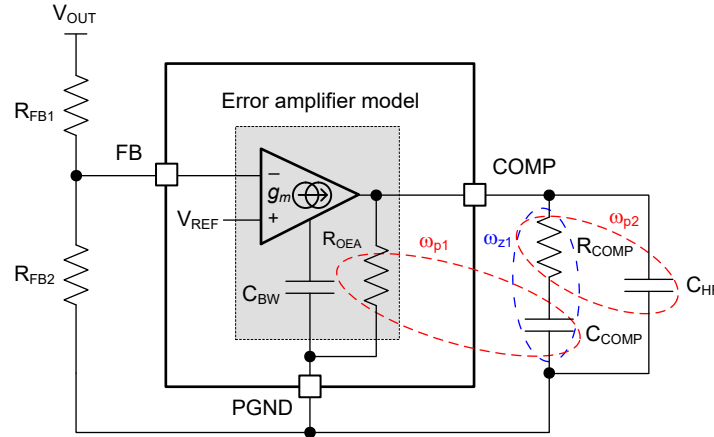

Figure 8-2. Error Amplifier and Compensation Network
Figure 8-2 shows a Type-II compensator using a transconductance error amplifier (EA). The dominant pole of the EA open-loop gain is set by the EA output resistance,  $R_{\text{OEA}}$ , and effective bandwidth-limiting capacitance,  $C_{\text{BW}}$ , as shown by Equation 20.
The EA compensation components create a pole close to the origin, a zero, and a high-frequency pole. Typically,  $R_{\text{COMP}} \ll R_{\text{OEA}}$  and  $C_{\text{COMP}} \gg C_{\text{BW}}$  and  $C_{\text{HF}}$ , so the approximations are valid. Figure 8-2 circles the poles in red and the zero in blue.